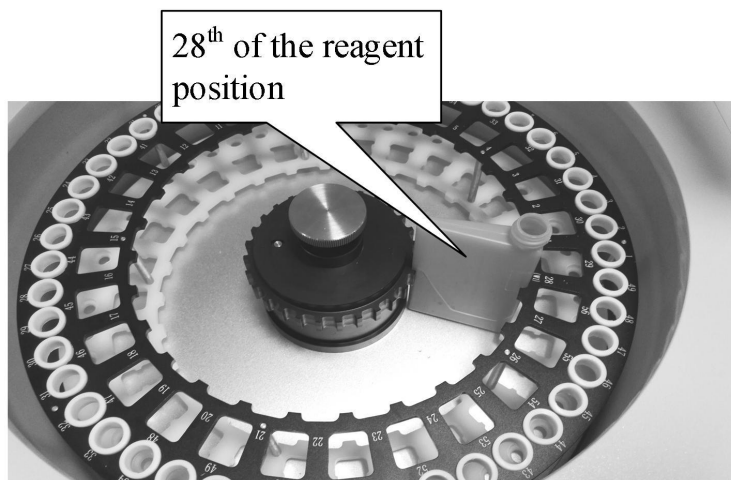

Figure 10-63 Reagent position Cleaning fluid adding
2. Reagent position cleaning fluid adding method: Cleaning fluid C is placed in the 28th position of reagent position, as shown in figure 10-63.